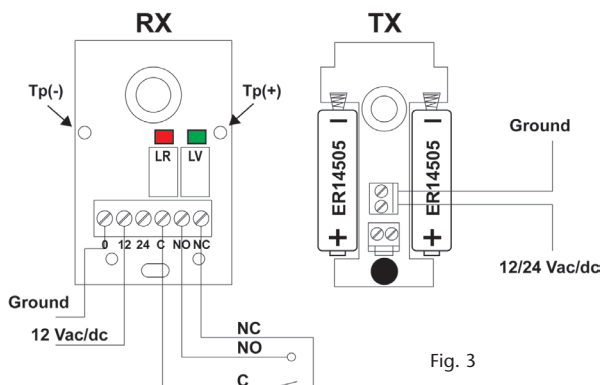

Fig. 3
1. Photo eye 12 vdc connects to the Photo Eye power connection on the gate operator control board. See figure 3.
2. Photo Eye ground wires to the common ground connection on the gate operator control board. See figure 3.
TX / Transmitter battery Requirement - Two 3.6 vdc lithium batteries (model - ER14505) or equivalent. When installing verify the correct polarity shown in figure 3.